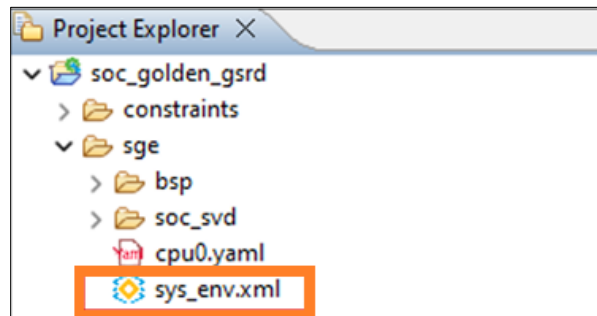

Figure 7.10. `sys_env.xml` File Created
- Notice that after generating the design, the tool creates the `sys_env.xml` file in the project directory as shown in Figure 7.10. The `sys_env.xml` can be used to generate C/C++ project for Hello World (optional), bootloader and bare-metal application projects in the next sections.